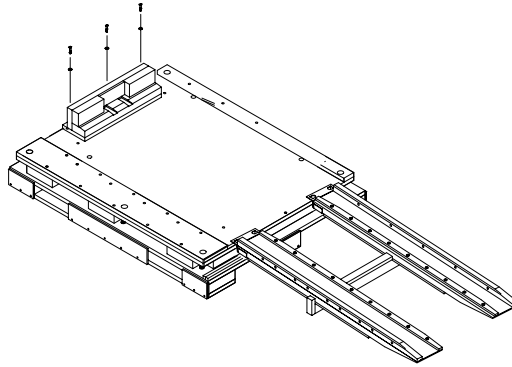

FIGURE 5-10 Installing the Rear Chock
4. Install the rear chock (P/N 411-1622-01) in on the pallet deck to ensure that the cabinet does not roll off the far end of the pallet and to aid in alignment of the cabinet to the deck (FIGURE 5-10).